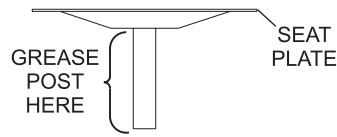

Figure 3
3. Apply a thin coating of lithium grease to the post of the new seat plate assembly, part #53-400225-000. Refer to *Figure 3*.